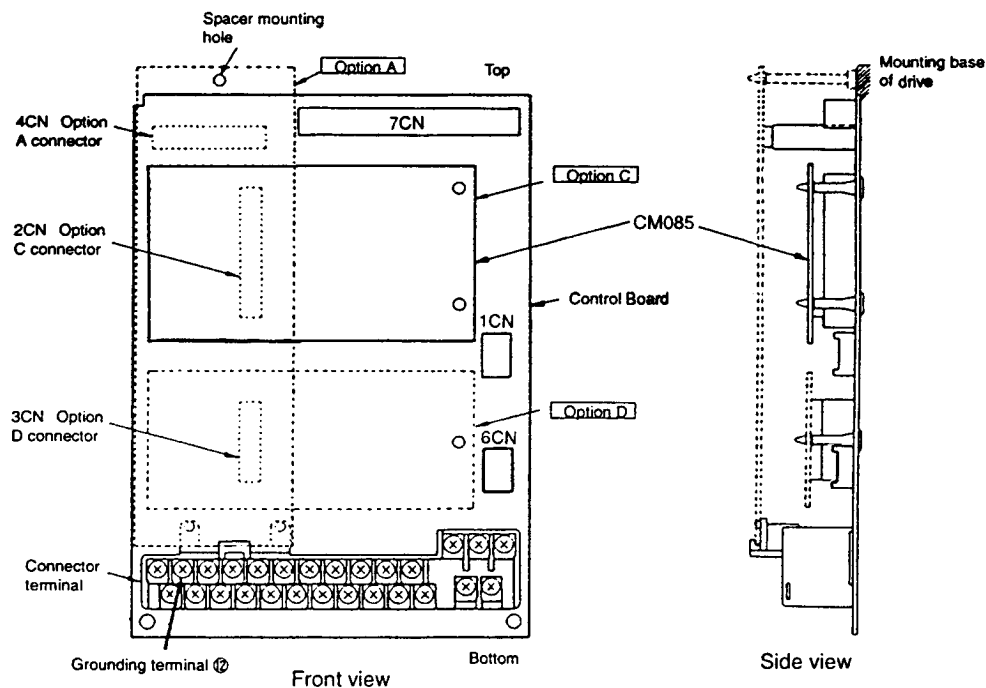

Figure A1. Installation of Analog Speed Reference (AI-14B) in GPD 515/G5
- A4. See Figure A1. Install the option on the Main Control Board, 1PCB, and ensure 2CN is properly connected. Make sure Electrostatic procedure is followed.